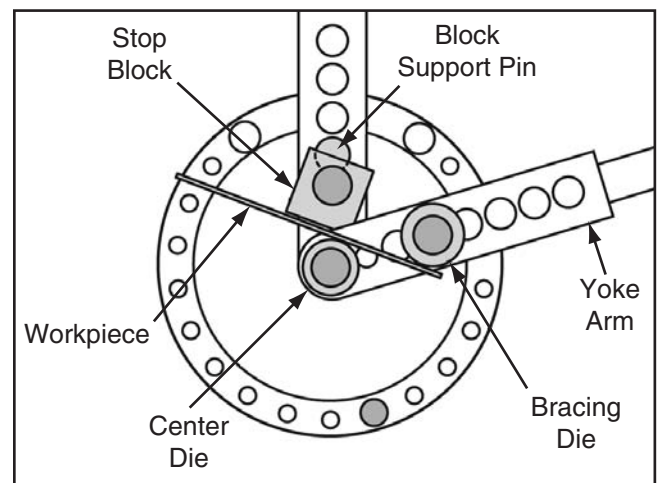

Figure 4. Basic radius bending setup.
1. Select the bending die that most closely matches the radius you wish to bend, then install it as the center die on the hinge pin that attaches the yoke arm to the bending bracket (see the illustration in **Figure 4**).
4. Insert the workpiece between the dies and stop block, as illustrated in **Figure 4**.